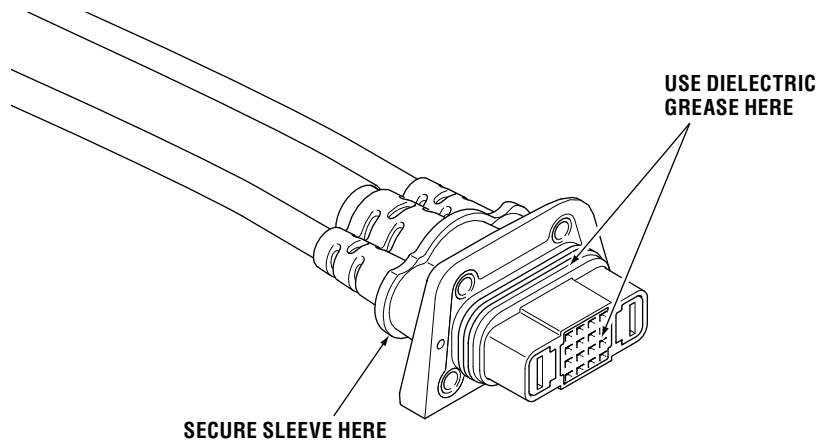

Figure 5-5.
2. Apply a light coat of the supplied dielectric grease to the connector seal and the pin slots at the end of the harness. See figure 5-5.